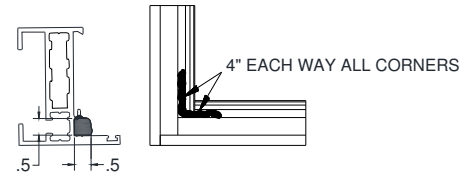

Figure 12:
- Apply a 1/2" x 1/2" x 4" bead of compatible sealant from each corner on inner flange of panel (Figure 12).